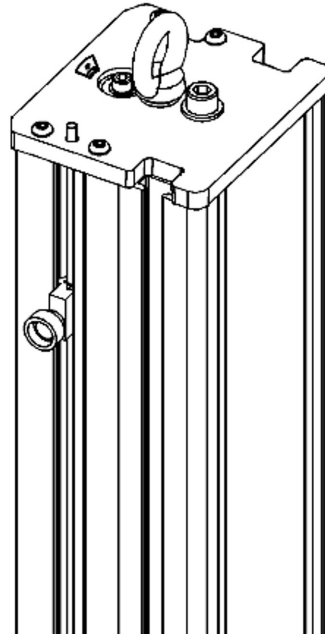

Figure 10. Eyebolt for lifting the frame
7. Insert the crane hook into the eyebolt on top of the frame column Figure 10 on page 60.
*For some systems, the eyebolt is removed prior to shipping. If the eyebolt is missing from your machine, it will be packed in an envelope inside one of the unsealed boxes, usually in the box that contains the system documentation. Screw the eyebolt into the top of the frame column as shown in Figure 10 on page 60.*